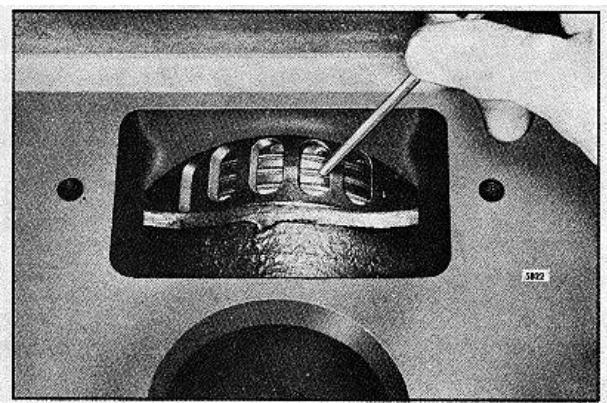

FIG. 2 - Inspecting Piston Rings
- A. Piston rings may be stuck or broken. To determine the condition of the rings, remove the air box cover and inspect them by pressing on the rings with a blunt tool (Fig. 2). A broken or stuck ring will not have a "spring-like" action.